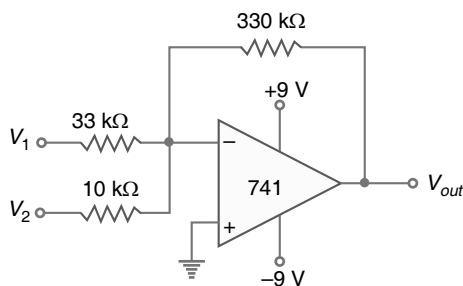

Fig. 23.76
**Example 23.49.** Calculate the output voltage for the circuit of Fig. 23.76. The inputs are  $V_1 = 50 \sin(1000t) \text{ mV}$  and  $V_2 = 10 \sin(3000t) \text{ mV}$ .